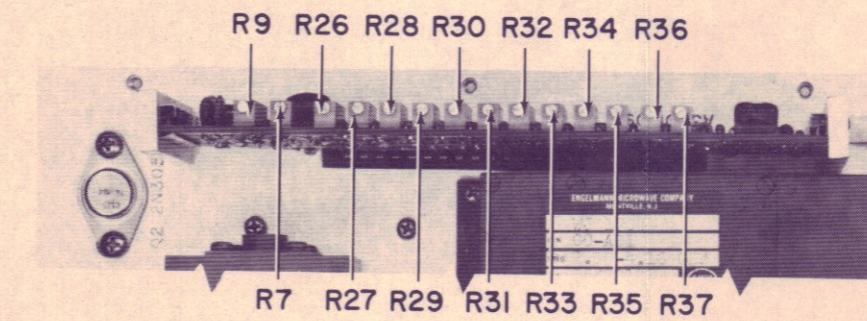

Figure 4-1g. YIG Tracking Potentiometer Locations
- (1) Tune the TH-480B to 4000 MHz.
- (2) Measure and note the voltages at pins 6 through 17 of XA3. Table 4-3 illustrates typical readings for a correctly aligned shaper. These voltages will not be identical for every YIG filter. However, the voltages should vary as shown, i. e., the voltage at pin 7 is greater than that at pin 6, and the voltage at pin 8 is greater than that at pin 7, etc.
- (3) If the measured voltage differs by a significant amount, or a new YIG filter has been installed, set the voltages to the readings shown in Table 4-3 using the appropriate potentiometers. Figure 4-1g, shows the potentiometer locations.